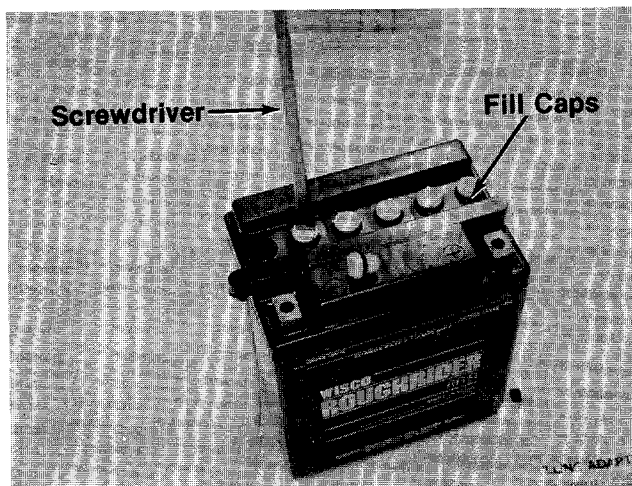

FIGURE 4.
- ← 4. Remove the six fill caps from the top of the battery with a screwdriver. Care should be taken not to damage the fill caps. See figure 4.